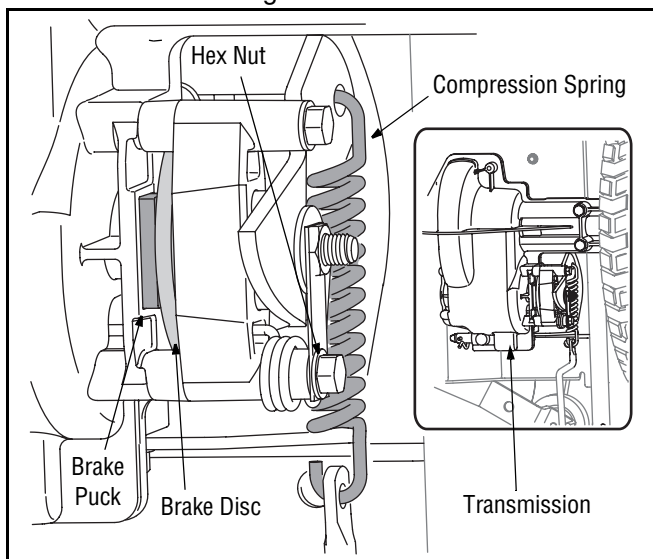

Figure 14
- Looking at the transmission from the right side of the tractor, locate the compression spring and brake disc. See Figure 14.
- Loosen, but do NOT remove, the hex nut found on the right side of the brake assembly. See Figure 14.